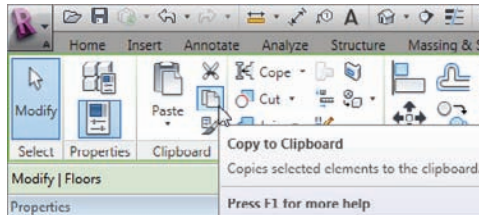

FIGURE 6.29 Clicking the Copy To Clipboard button
- On the Modify | Floors tab, click the Copy To Clipboard button on the Clipboard panel, as shown in Figure 6.29.